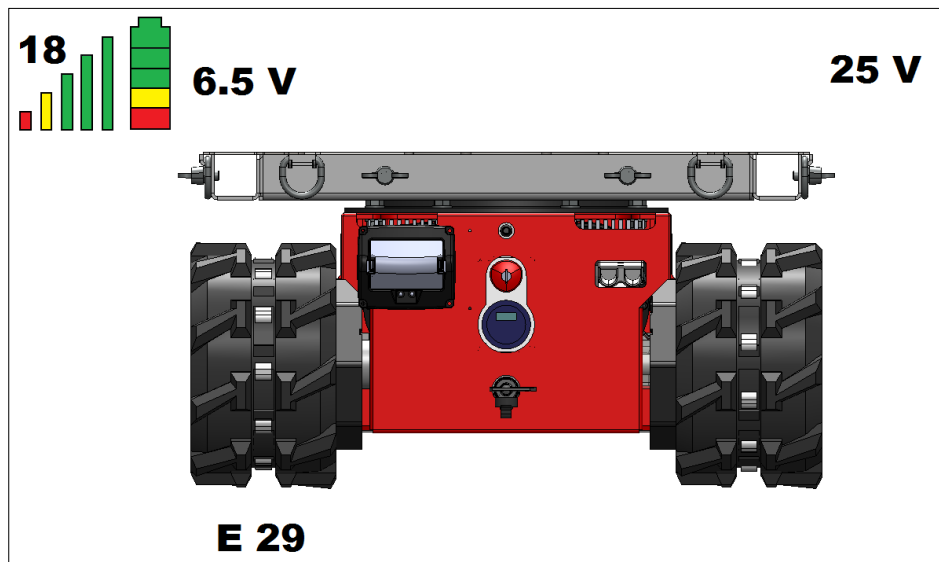

Figure: 18
- The transmission frequency is shown at the top left. See figure 18; here it is set to 18.
- The signal strength is indicated by 5 vertical bars. If the strength is good, they are all shown, as in figure 18. As the signal weakens, the green bars disappear first, then the yellow and red ones.
- The battery state of charge is shown in the battery symbol in the top-left corner of the screen. When the battery is fully charged, 3 green blocks, 1 yellow and 1 red are shown, as in figure 18. As the battery discharges, the blocks go out, one at a time.
- The voltage is shown in volts. In figure 18 this is 6.5 V.
- The voltage of the battery pack for the drive system of the Tracked Carrier ('25 V') is shown at the top right (figure 18).
- In the middle of the figure is a picture of the rear of the Tracked Carrier (figure 18).
- An error code can be displayed below the left and right tracks. In figure 18 the error code E29 is shown below the left track. The explanation of the error codes can be found in section 7.8.